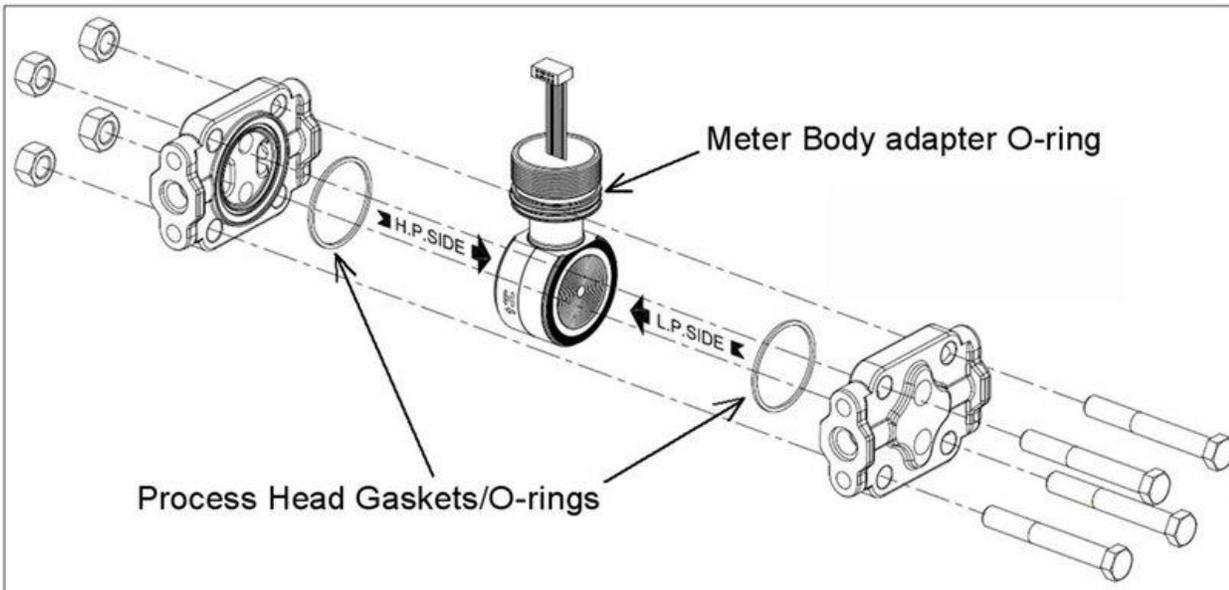

Figure 28 – Meter Body Reassembly
15. Refer to Figure 28. Apply Parker Super O-Lube O-Ring lubricant to the meter body adapter O-ring and carefully assemble the O-ring to the meter body. Assemble the process head(s) and bolts to the new meter body. For now, make the bolts only finger-tight.